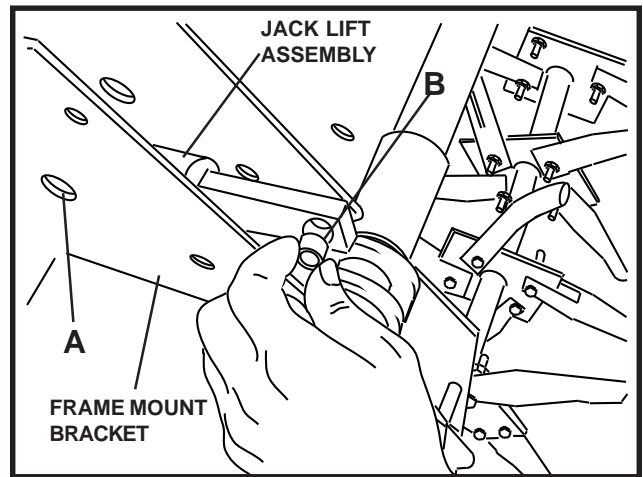

FIGURE 2
2. Tip aerator onto its back edge and install jack lift assembly. Install 5/8" x 9/16" bushing in hole "B" near end of the jack assembly before inserting into frame mount. Slide lift jack assembly between the two frame mount brackets and align frame mount hole "A" with lift assembly hole. See Figure 2.